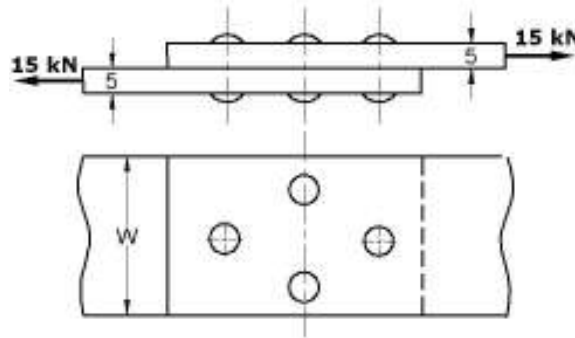

Fig. 3
- Q-5 (a) Two plates, each 5 mm thick, are connected by means of four rivets as shown in Fig. 3. Permissible stresses for rivets and plates in tension, shear and compression are 80 N/mm², 60 N/mm² and 120 N/mm² respectively. Calculate (a) diameter of the rivets (b) width of the plate and (c) efficiency of the joint. 07